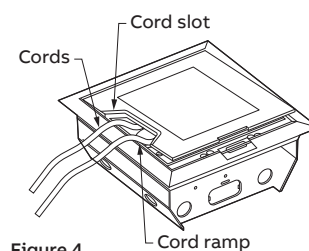

Figure 4
2. Plug in data and power cords as needed and route over Cord ramp. Rotate Lid so that Cord slot is directly over Cord ramp (see Figure 4).